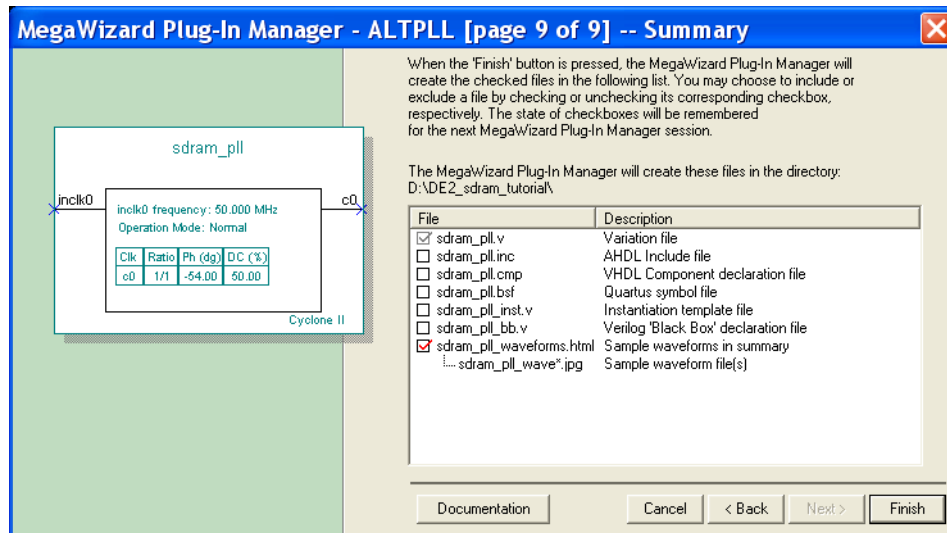

Figure 15. The summary page.
6. In the summary window in Figure 15 click Finish to complete the process.